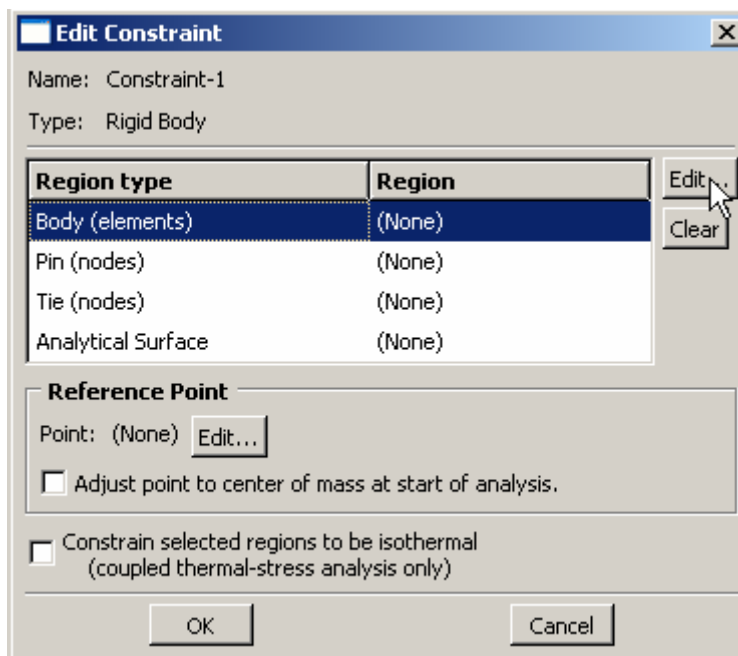

Figure W-22
- a. Select **Region type** as Body and press **Edit** (Figure W-22).